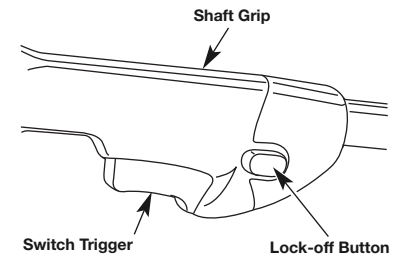

Fig. 11
2. Press and hold the lock-off button (Fig. 11). This makes the switch trigger operational.
3. While holding the lock-off button, press and hold the switch trigger (Fig. 11).